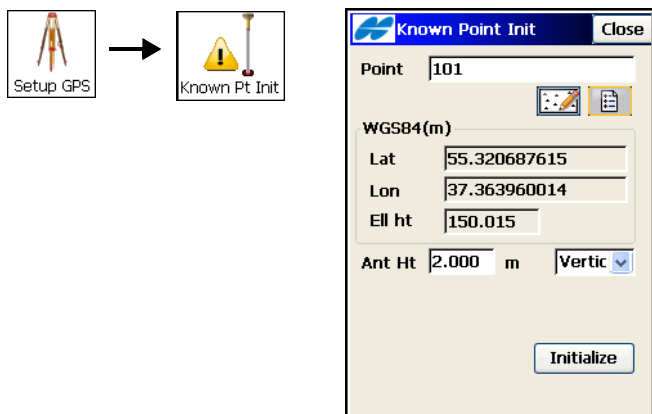

Figure 8-26. Known Point Initialization Screen
1. In the **Known Point Init** screen (Figure 8-26), select the known point and set the antenna parameters of the station.
2. To start initialization, tap the **Initialize** button (Figure 8-26). The **KPI Position** screen displays the status information on Rover initialization (Figure 8-27).